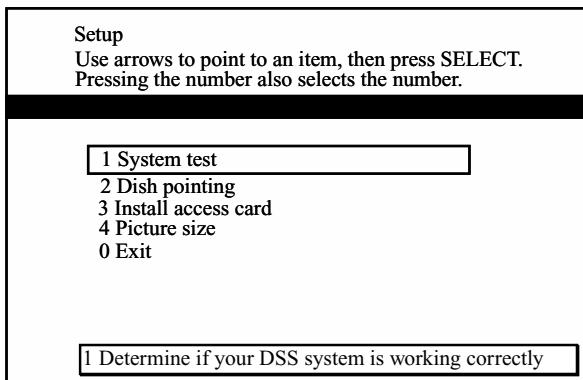
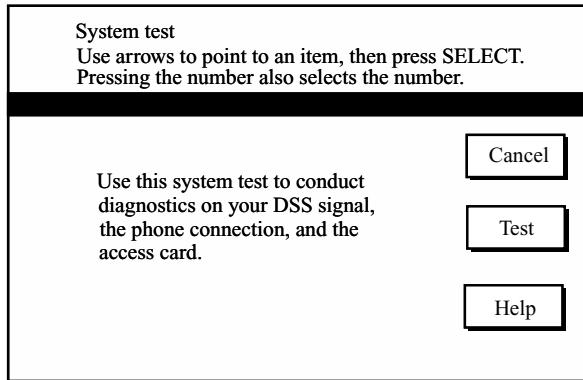

FIGURE 6-14 The setup menu for the system test.
FIGURE 6-15 The system test menu. (Courtesy of Thomson Multimedia.)
- Now select “System Test” from the “Setup” menu. Your TV screen will appear as in Fig. 6-14. Next, select “Test” from the System Test menu (Fig. 6-15).